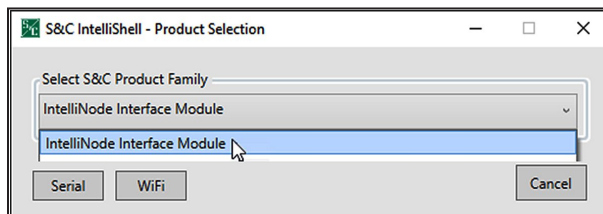

Figure 13. The S&C Electric IntelliShell—Product Selection dialog box.
STEP 2. Select the **IntelliNode Interface Module** option to update an IntelliNode control. Click on either the **Serial** or **Wi-Fi** button based on the communication method used to connect to the control. See Figure 13.